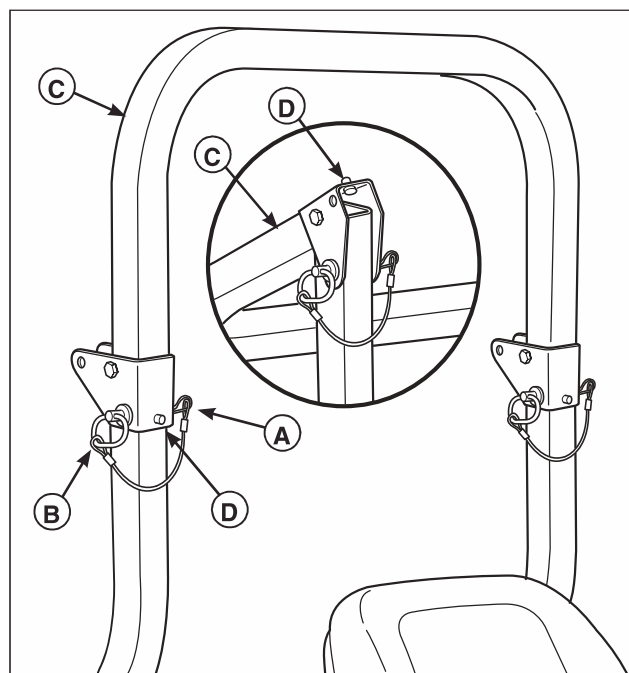

Figure 11. Raise & Lower the Roll Bar
1. Pull the hair pin clips (A, Figure 11) out of the retainer pins (B).
2. Push or pull the top of the roll bar (C) forward against the rubber stops (D) and remove the retainer pins (B).
3. Lower the roll bar and reinstall the retainer pins and hair pin clips to secure the roll bar in the down position (see insert, Figure 11).